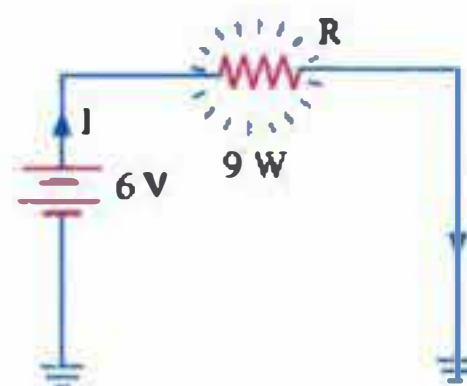

Fig. 1.18
- Compute the value of resistor R in Fig. 1.18 if power dissipated by it is 9 W . [$4\ \Omega$]